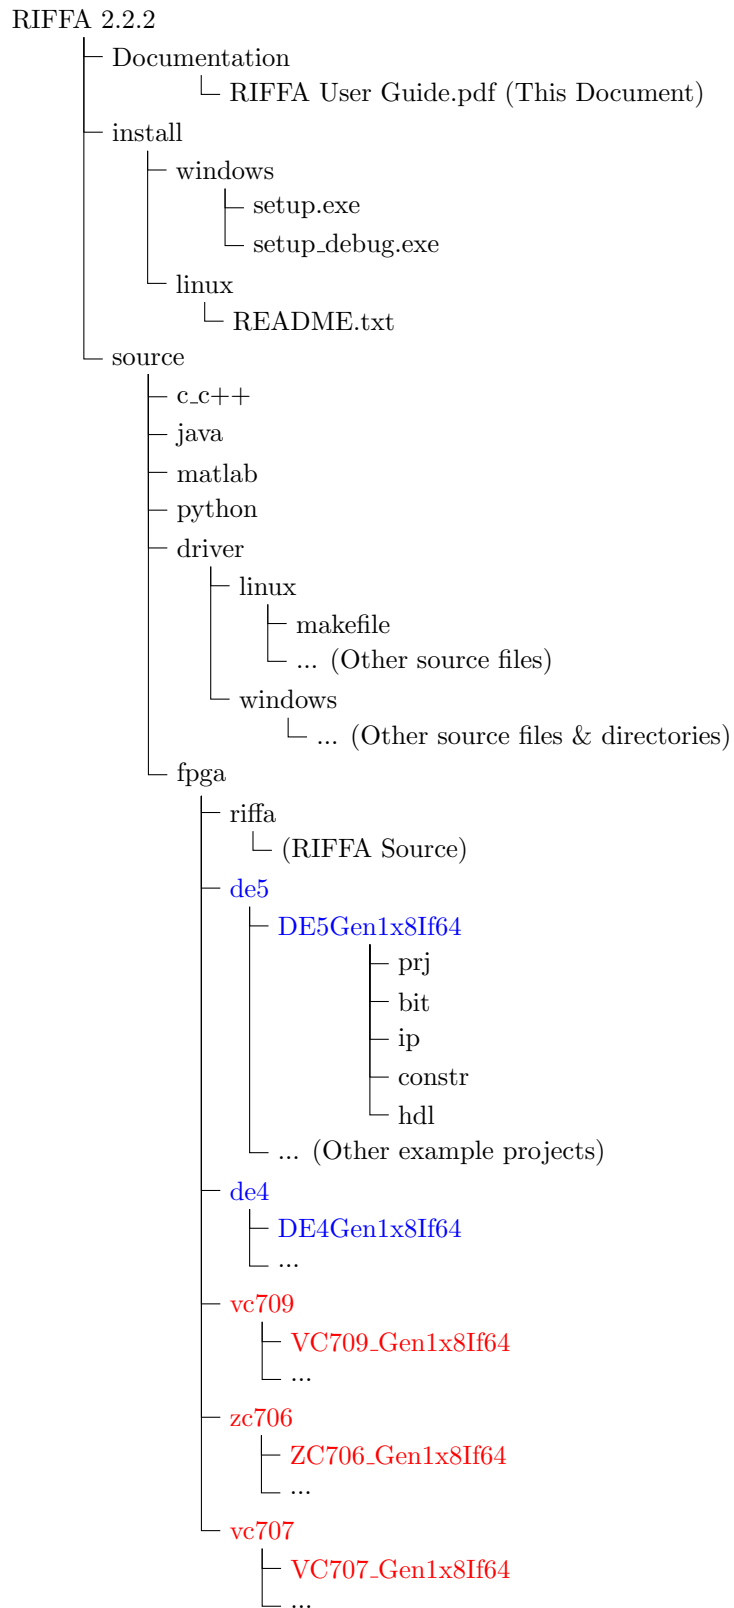

Figure 2.1: Directory hierarchy of the RIFFA 2.2.2 distribution
Fig 2.1 shows the directory hierarchy of RIFFA. This instruction manual uses this directory tree when specifying all directory paths.
8. Bindings for other languages can be installed by following the README files in their respective directories (See Figure 2.1